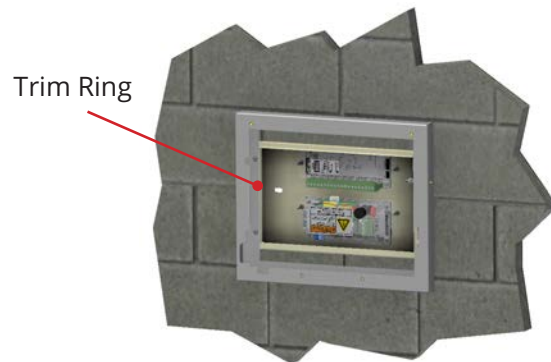

Figure 5.1: MP26 Retrofit Installation
1. Install the Trim Ring to the concealed backbox using the previous hinge screws (Figure 5.1).